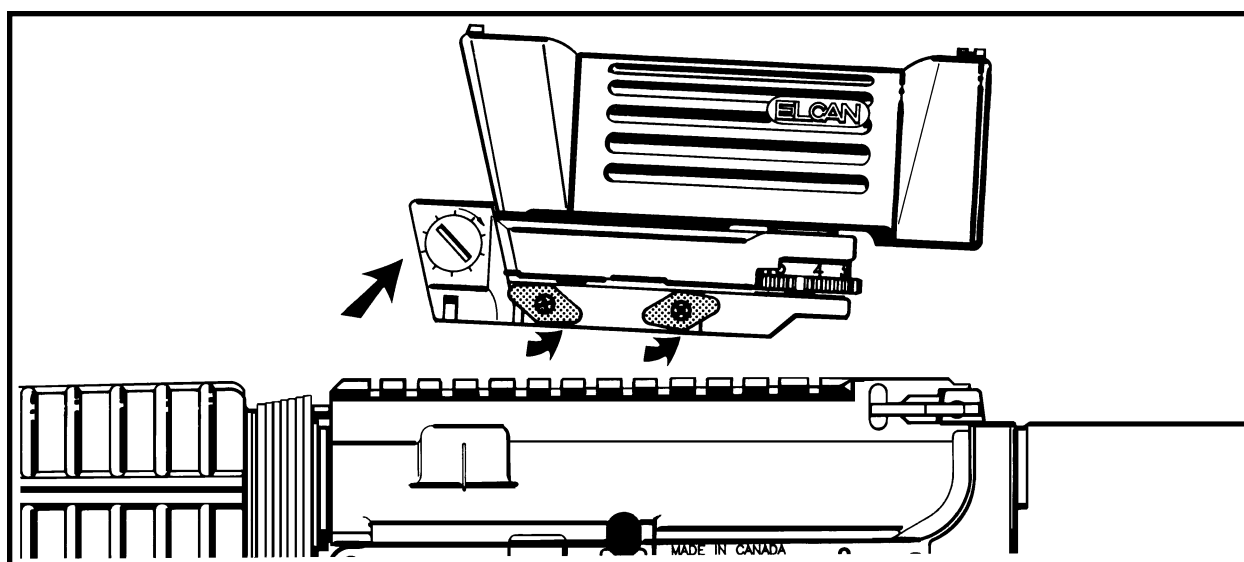

Figure 3-2-3 Removing Sights
- a. Loosen the wing-nut(s) on Optical Sight, Detachable Iron Sight (DIS), or Back Up Sight, and remove the sight from the sight rail. See Figure 3-2-3;